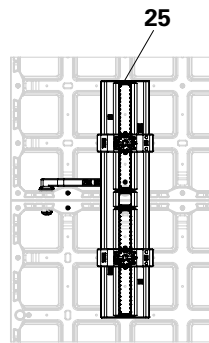

Fig. B10.04a
Install the DUO 62 compensation waler (25) in every horizontal panel joint. (Fig. B10.04a)